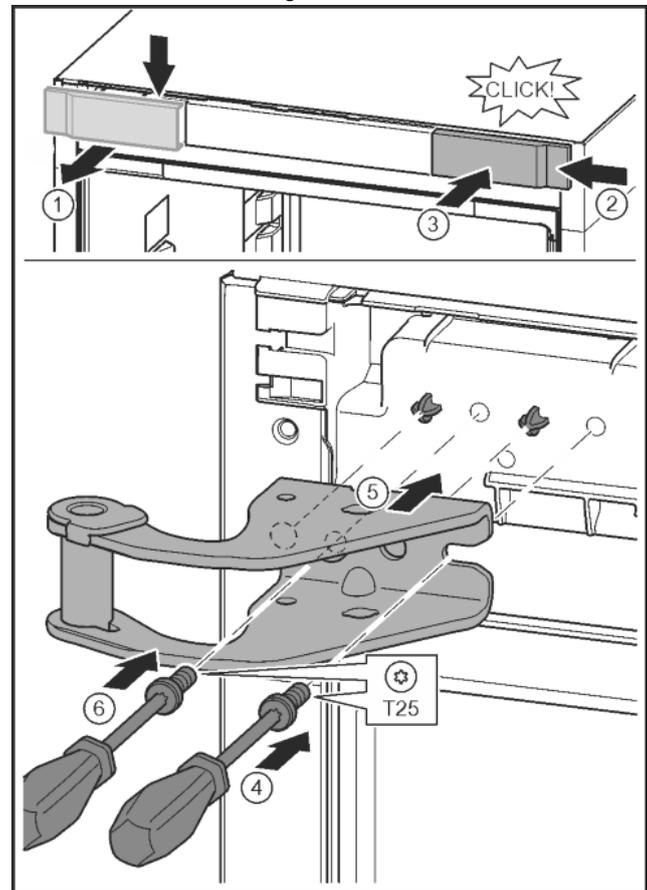

Fig. 9
- ▶ Release the cover and remove from the side. Fig. 9 (1)
- ▶ Rotate the cover 180° and clip onto the other side from the right. Fig. 9 (2)
- ▶ Click the cover into place. Fig. 9 (3)
- ▶ Position the screw with a T25 screwdriver. Fig. 9 (4)
- ▶ Position the upper bearing bracket. Fig. 9 (5)
- ▶ Tighten the screw. Fig. 9 (4)
- ▶ Insert the screw with a T25 screwdriver and tighten. Fig. 9 (6)